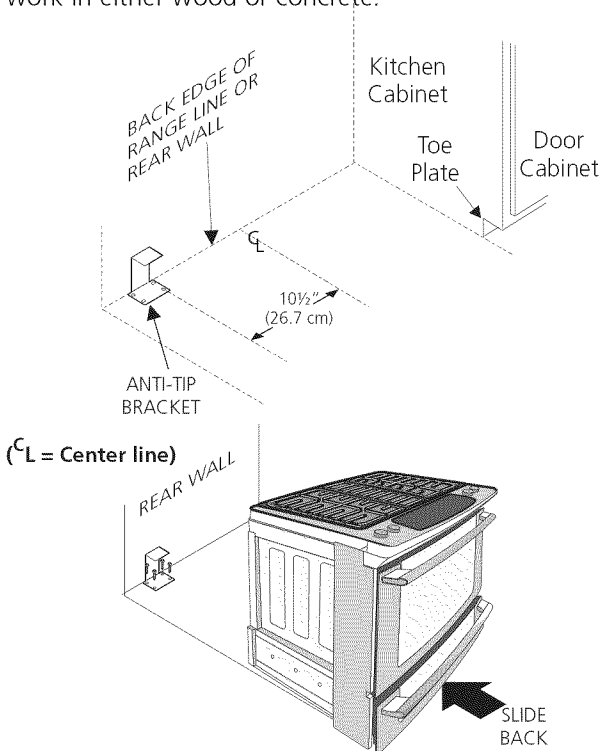

Figure 17
1. Draw a center line (CL) on the floor where the range should be installed. Also draw a line on the floor at the range back position if there is no wall.
2. Unfold paper template and place it flat on the floor with the right rear corner positioned exactly on the intersection of the center and back lines you just drew before. (Use the diagram below to locate brackets if template is not available. (Figure 17))